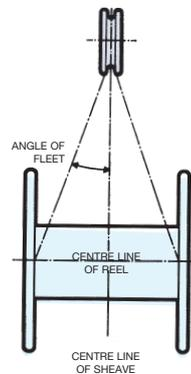

Fig 7
Pass a shaft through the reel and place the reel in a suitably anchored stand which allows it to rotate and be braked to avoid overrun during installation. Where multi-layer coiling is involved it may be necessary for the reel to be placed in equipment which has the capability of providing a back tension in the rope as it is being transferred from reel to drum. This is to ensure that the underlying (and subsequent) laps are wound tightly on the drum. (See Fig. 7)
- Position the reel and stand such that the fleet angle during installation is limited to 1.5 degrees. (See Fig. 7)